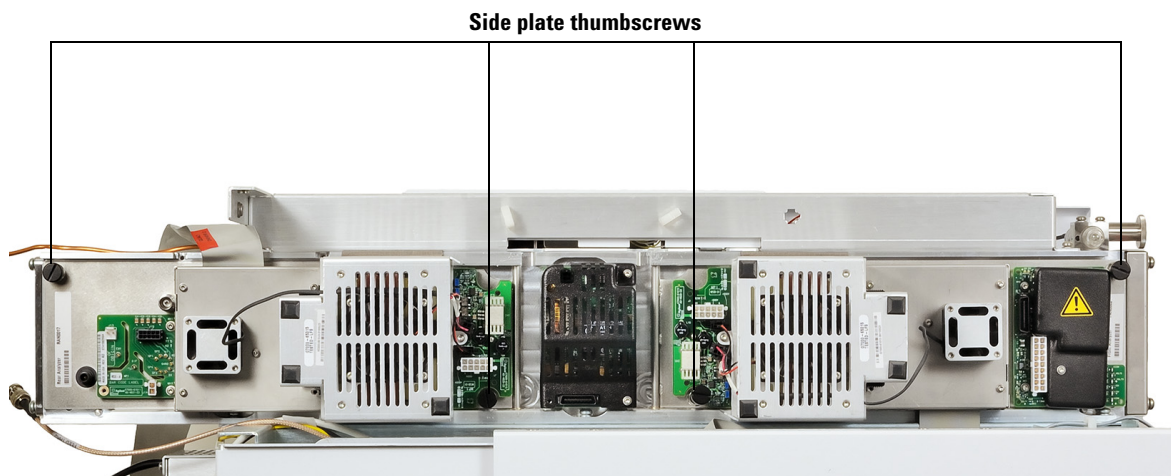

Figure 5 Side plate thumbscrews
- 8 Finger-tighten the side plate thumbscrews for both analyzers. (Figure 5).